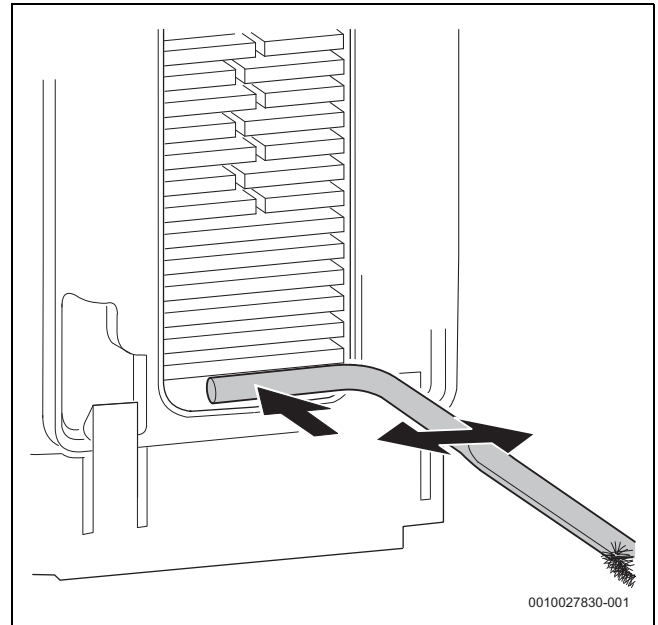

Fig. 93 Cleaning debris
- ▶ Use the handle of the brush to remove debris from the condensate tray (→ figure 93.).